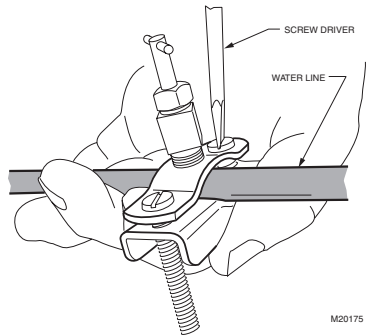

Fig. 5. Installing saddle valve.
2. Use the self-piercing saddle valve (included) to tap into the water supply line at the location selected. See Fig. 5. If tapping into galvanized pipe, drain line and pre-drill 3/17 in. tap for saddle valve.